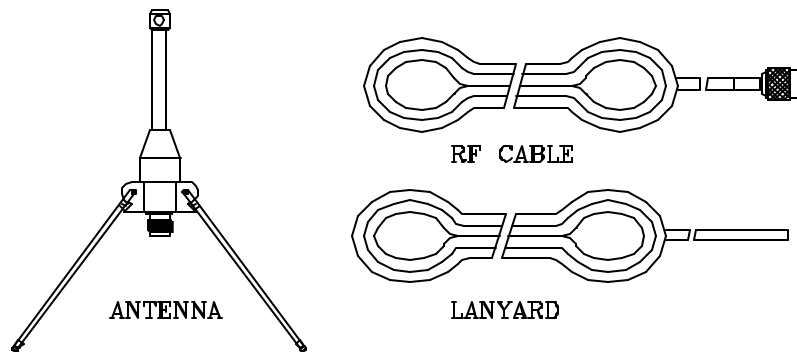

Figure 1 – Parts Diagram
1. **Part List:** Package includes retractable antenna, RF feed-line with connector, and lanyard (rope). See Figure 1: Parts Diagram.